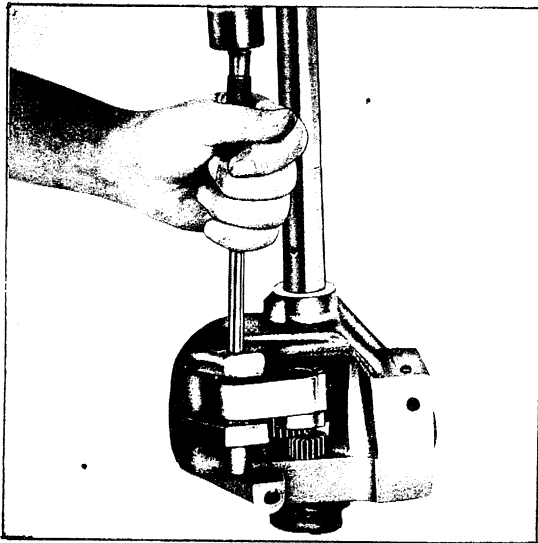

Figure 128
5. Drive out the dual gear (WH40X50) with a 3/8" drift punch, *Figure 128*. The dual gear shaft is a press fit into the dual gear. It rotates in the gearcase bores with the gear as a unit.